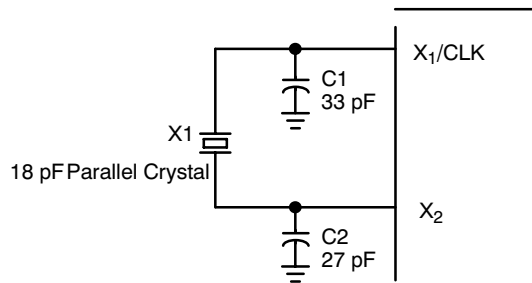

Figure 7. Crystal Input Interface
- The crystal should be fundamental mode, parallel resonant. Do not use third overtone. For exact tuning when using a crystal, capacitors should be connected from pins X1 to ground and X2 to ground. The value of these capacitors is given by the following equation, where CL is the specified crystal load capacitance: Crystal caps (pF) = (CL-5) x 2. So, for a crystal with 16 pF load capacitance, use two 22 pF caps, including board trace capacitance (see Figure 7).